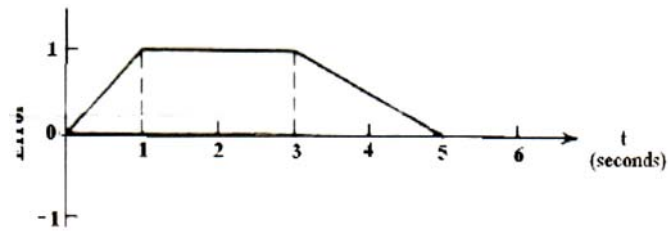

Figure 3
- Q9) a)** Figure 3 shows an error time graph. Sketch the PID controller (series form) output w.r.t. time. Assume $K_p=10$, $K_i = 2$, $K_D= 0.5$ and $P_o=0$ i.e the controller output is zero when the error is zero. **[10]**